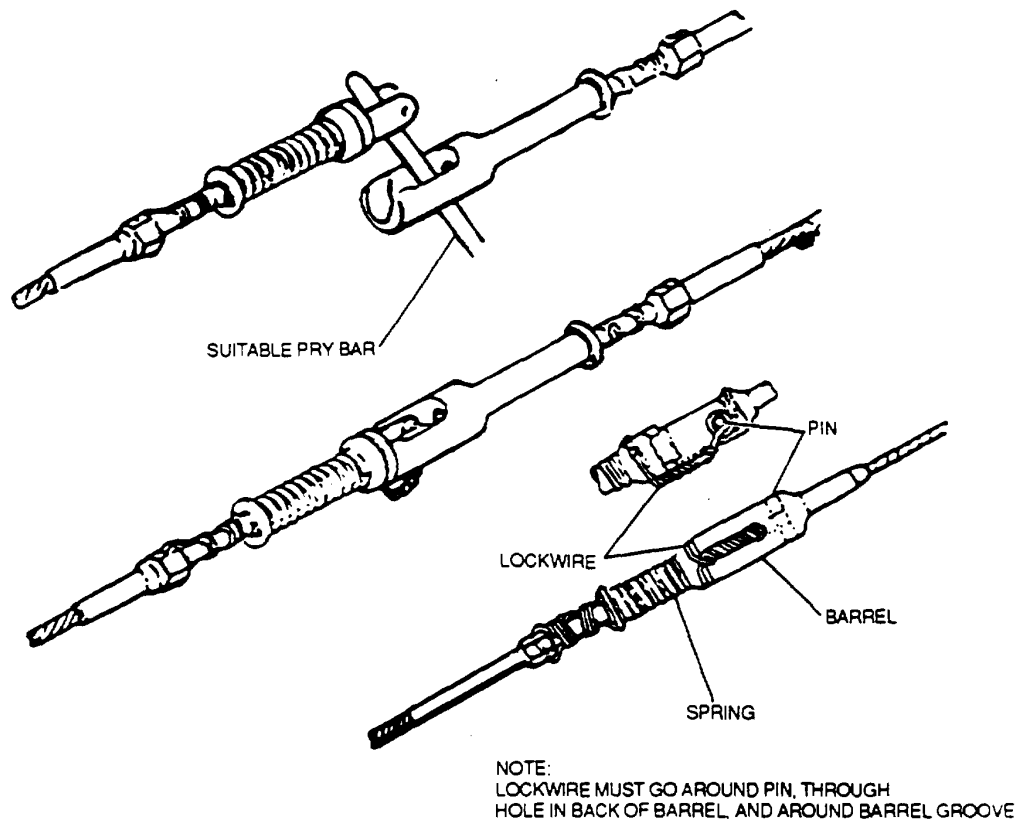

Figure 2-81. Speed Rig Lockwiring
g. Speed Rig Safetying. Insert lockwire through eyelet in speed rig, wrap lockwire around pin, then back through eyelet as shown in figure 2-81. Twist wire to proper length and secure around locking collar at base of speed rig, cut wire to proper length, twist and fold into speed rig cavity.